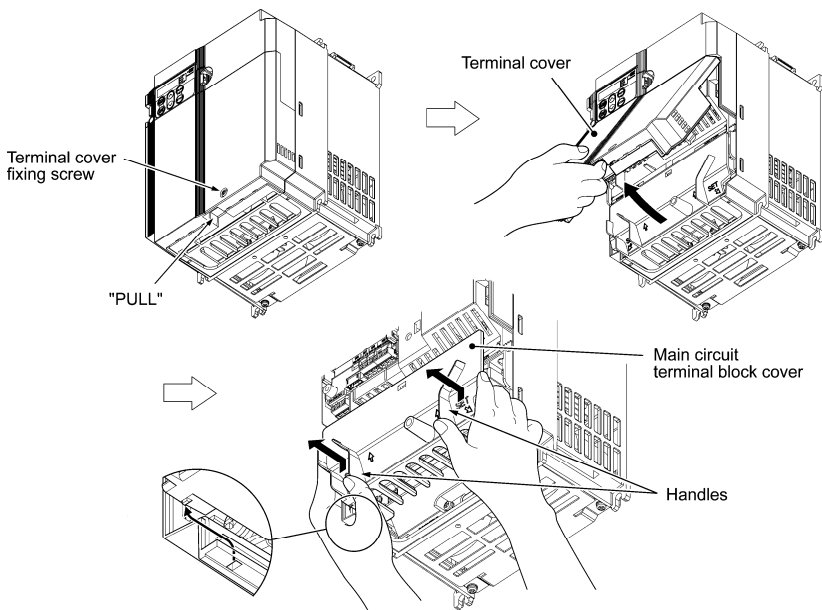

Figure 2.5 Removing the Covers (For Inverters with a Capacity of 5.5 and 7.5 kW)
**(2) For inverters with a capacity of 5.5 and 7.5 kW**
- ① To remove the terminal cover, first loosen the terminal cover fixing screw on it, and put your finger in the dimple of the terminal cover (labeled "PULL"), and then pull it up toward you.
- ② To remove the main circuit terminal block cover, put your thumbs on the handles of the main circuit terminal block cover, and push it up while supporting it with your fingers. (Refer to Figure 2.5.)